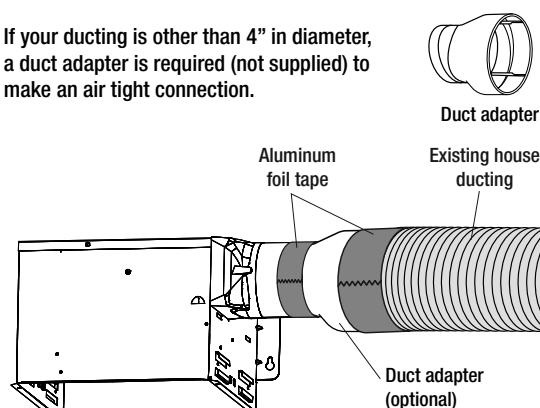

Fig. 14
- If using a flexible duct connector or duct adapter, use aluminum foil tape at each end to secure the connector or adapter to the existing ducting and to the fan's damper. See figure 14.